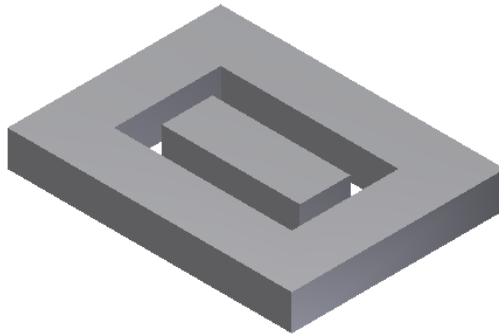

Figure 18-35 Assembly after creating the Inner Plate
- Add the **Mate** constraint between all inner faces of the groove in the Outer Plate and the outer faces of the Inner Plate. The size of the Inner Plate automatically changes in order to adjust inside the Outer Plate, refer to Figure 18-35.
You do not need to add dimensions to the Inner Plate as it is an adaptive part. The assembly after creating the Inner Plate is shown in Figure 18-35.